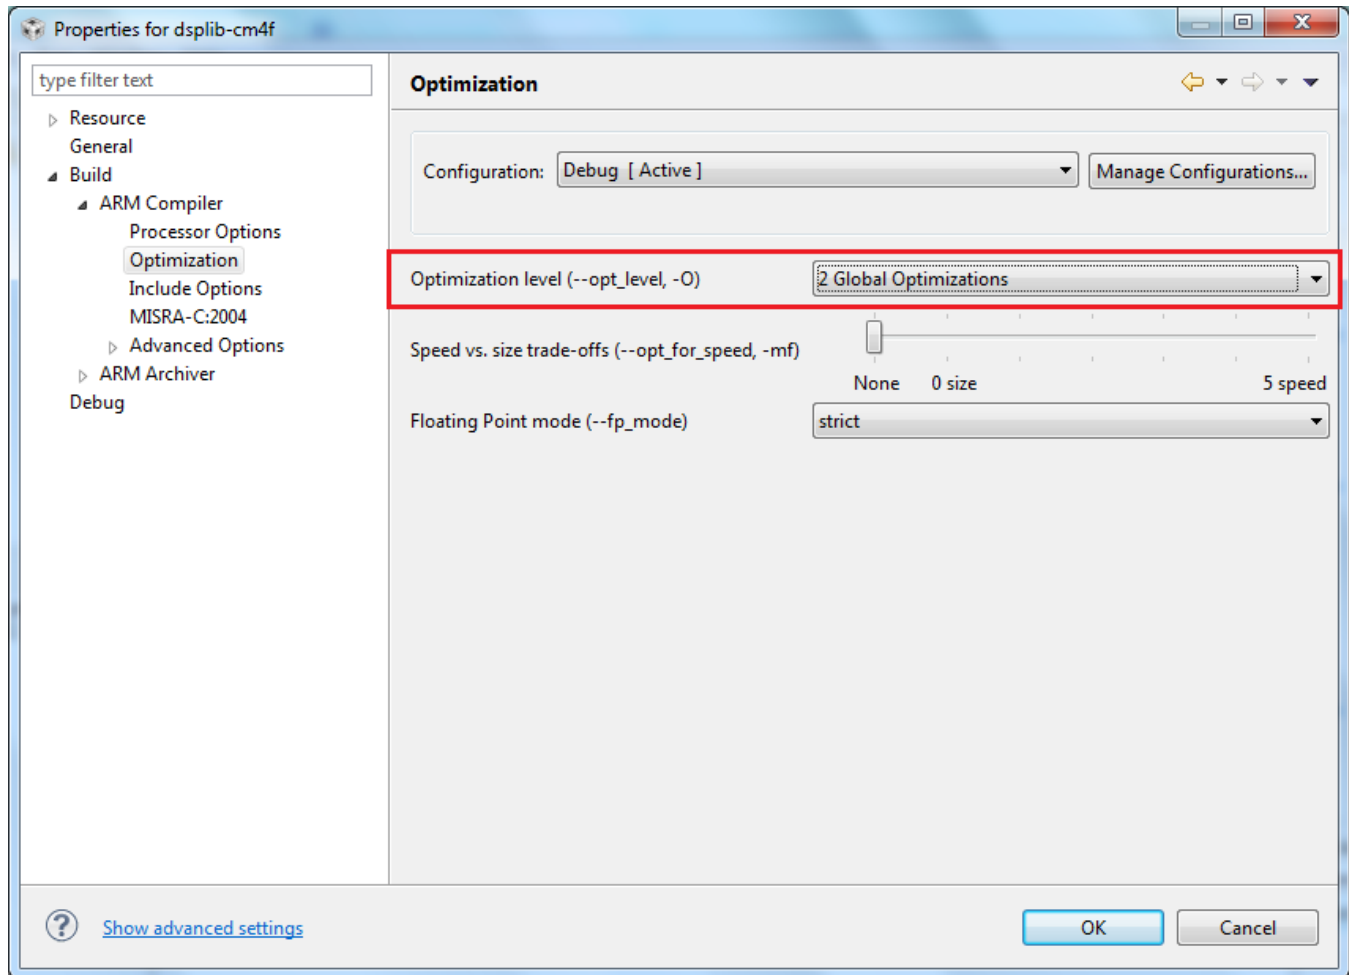

Figure 6. The Proper Optimization Settings for Compiling the DSP_Lib Source Code
4. Click the *Optimization level* (`--opt_level`, `-O`) drop-down menu in the Optimization panel and select 2 (see Figure 6).